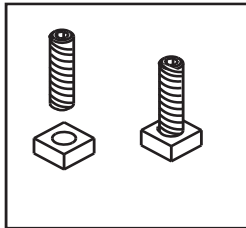

Figure 16.1
1. Thread Allen bolts through nuts until flush. **Figure 16.1.** The Allen bolts and nuts are included in the component pack inside the appliance firebox.